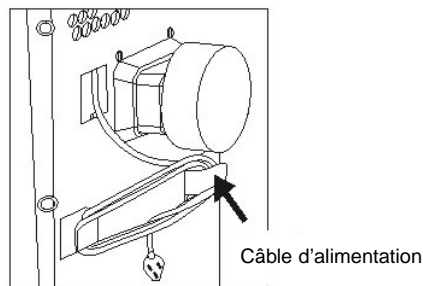

FIG.26
- When the appliance is not in use put the power cord away as shown in picture beneath. (fig. 26)